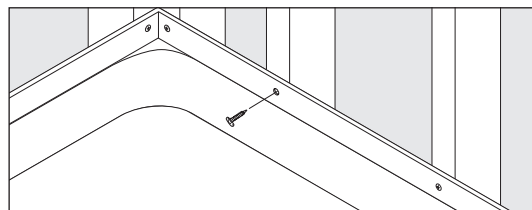

FIGURE 5. If needed, shim between nail flange and stud(s) for tight fit. Screw flange to all studs.
- e. Once leveled, screw nail flange to all studs (Fig 5).